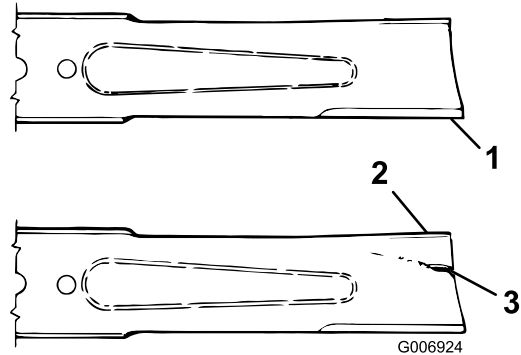

Figure 15
2. Examine the cutting ends of the blade carefully, especially where the flat and curved parts of the blade meet (Figure 15). Since sand and abrasive material can wear away the metal that connects the flat and curved parts of the blade, check the blade before using the machine. If wear is noticed (Figure 15), replace the blade; refer to Removing the Cutter Blade.